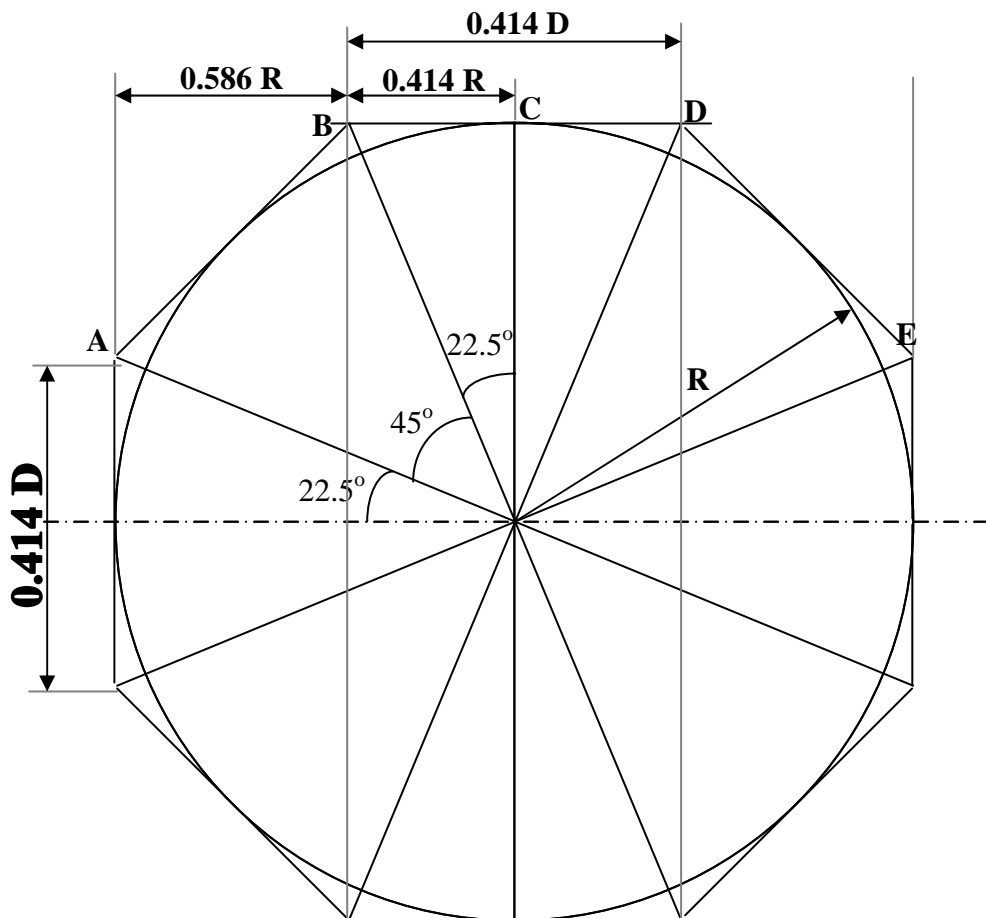

Figure 2
The polygonal method described by Mike Darlow in **WOODTURNING METHODS** is used to help achieve a spherical shape with a fairly accurate diameter. This method is illustrated in Figure 2 (See also Photo 3). The idea is to turn the octagon first and then to round off the corners to form the sphere.
**A SIDE NOTE:** I used a free CAD program to draw the "story board" and the diagram shown in Figure 2. The program is eMachineShop and it can be downloaded from <http://www.emachineshop.com/>. This is not a full featured CAD program, but it is very nice and easy to use. It is easy to obtain accurate dimensions in inches or metric.